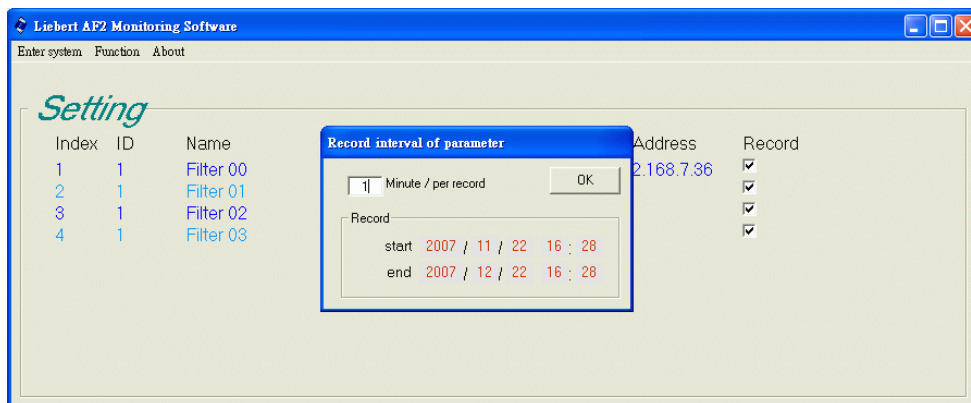

Figure 3-4
- Record interval of parameter** : To set the power parameters record interval, start and end record time. The record interval time can be set from 1 to 60 minutes; refer to figure 3-4.